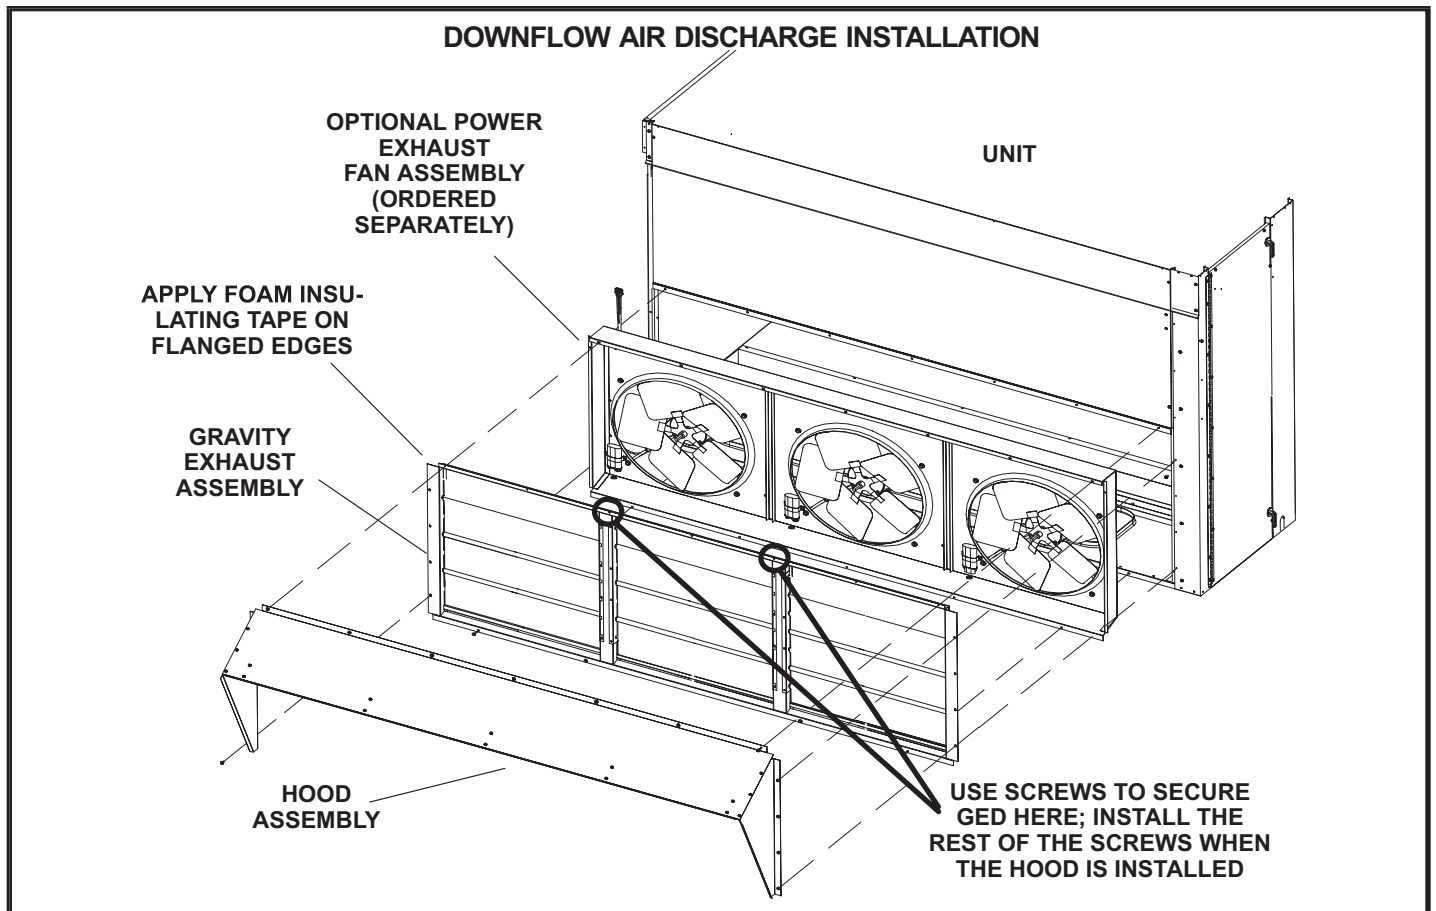

FIGURE 1
- 3 - Align holes along the flanged edge of the exhaust damper with holes along the bottom of the unit. See FIGURE 1.
- 1 - Remove and retain screws securing GED top and sides to the unit EXCEPT FOR THE TWO SHOWN IN FIGURE 1.